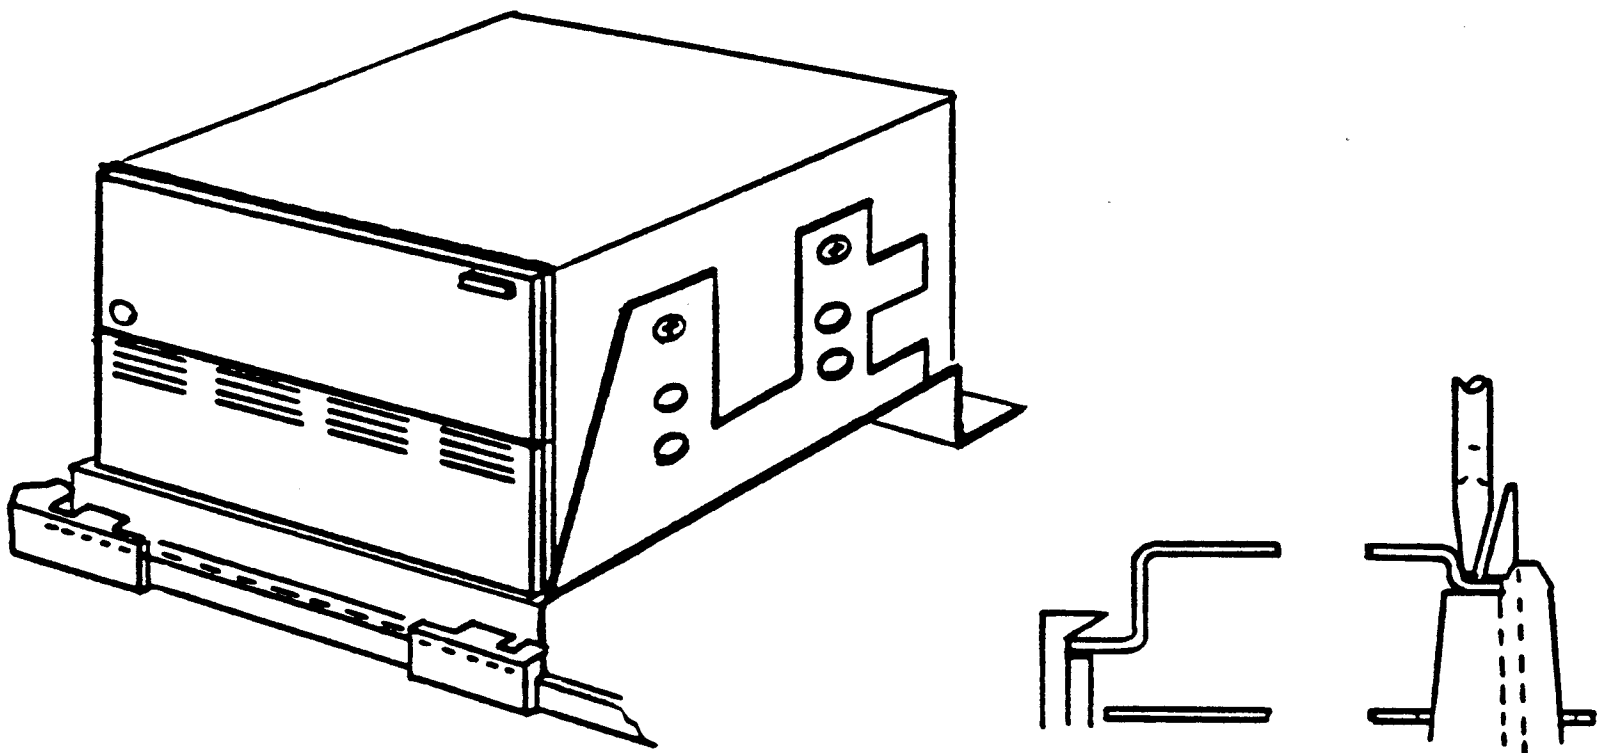

Figure 2-1. MTCS Mounting Bracket
8. Mount the MPCS to the 907422-001 bracket (refer to Figure 2-1).
9. Snap the bracket of the MTCS into the left-hand side of the chassis (refer to Figure 2-1).